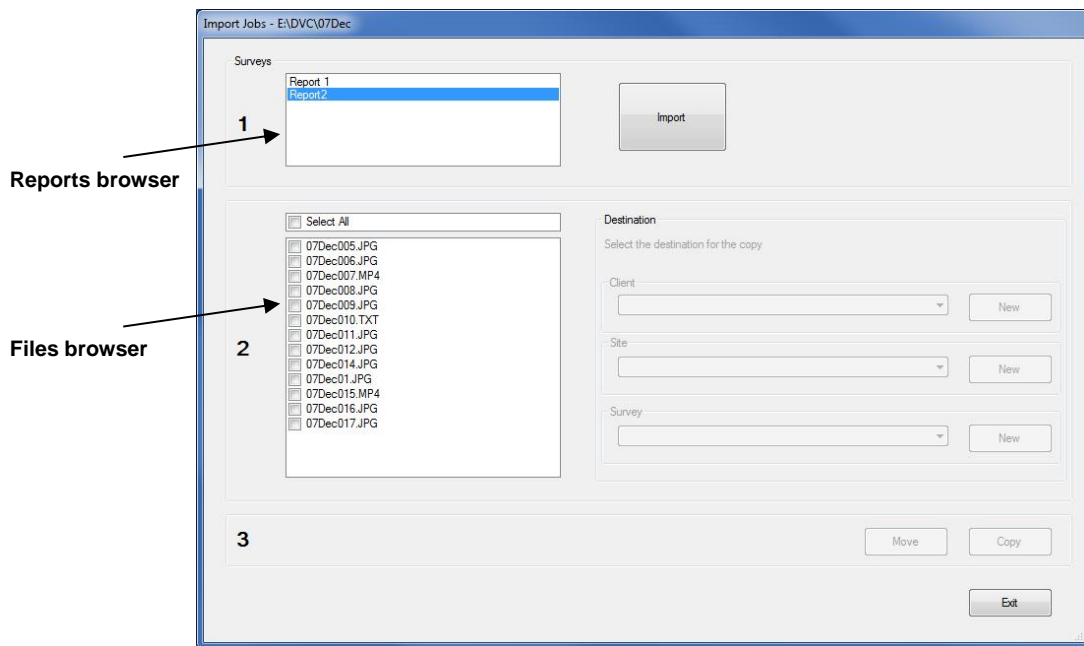

Figure 3.19 Import Survey Files screen – Survey reports presents
- Use the reports browser in the Import Survey Files screen (Figure 3.19) to select the report associated to the survey files you wish to import into FSM. Press **Import** to progress and to obtain the client, site and survey information, press **Finish** to complete.